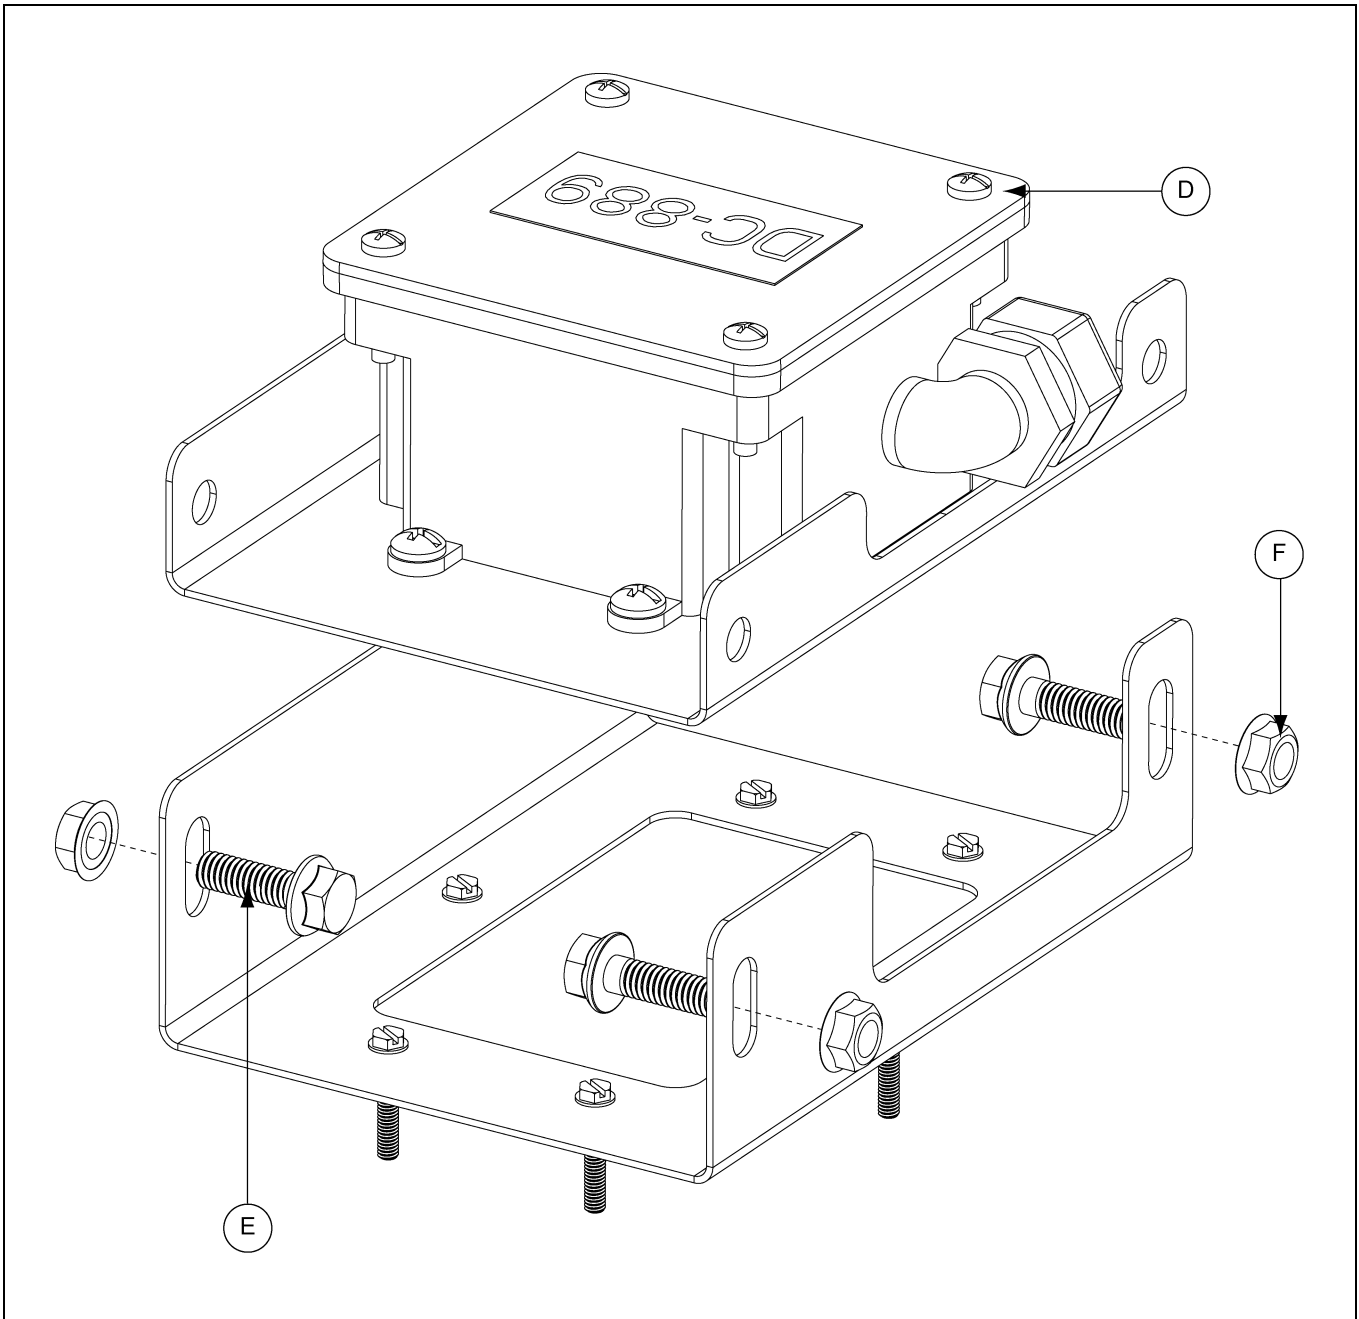

Figure 3B
4. Assemble the overload switch box assembly (D) to the diaphragm frame using the 5/16" flange bolts (E) and 5/16" nuts (F). (See Figure 3B.)